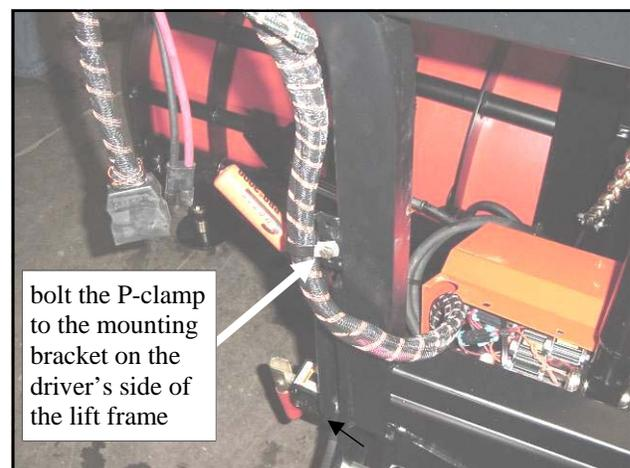

Fig. 9.3 (view of driver's side)
9.3 Per fig. 9.3, install the single large P-clamp on the driver's side as shown using a 1/4-20 x 3/4" long hex head bolt and locknut to hold the large, heavy portion of the wiring harness. Note: the bolt can be installed in any of the three holes in the bracket that is welded onto the side of the lift frame approximately where shown.